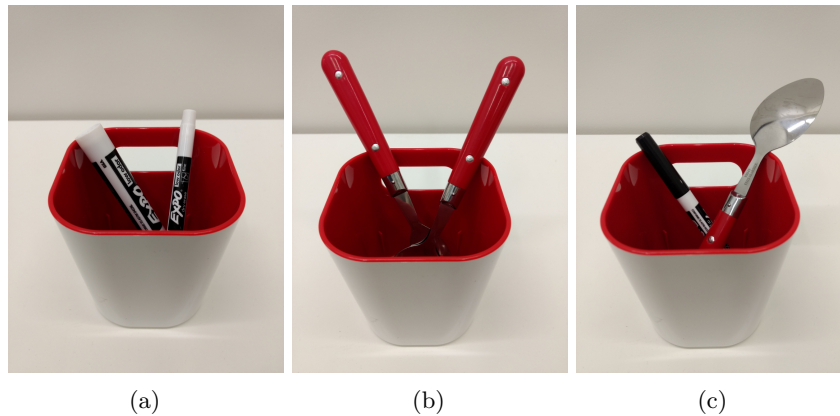

Figure 8: Example of a correct a) markers and b) cutlery orientation-based items' delivery, and c) incorrect delivery, where the tips should face downwards.
- Correctly depositing an object based on its orientation (e.g. markers' tips facing downwards as in Figure 8): 10 additional points per object.